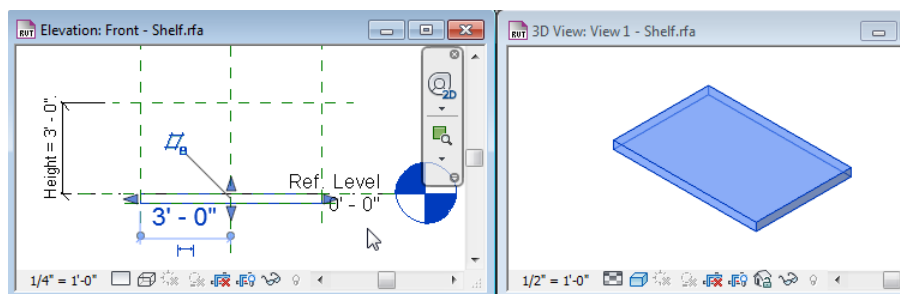

Figure 15
5. Lock the new position of the Extrusion shape handle. You should have a very short box completely below the Ref. Level (see Figure 15).